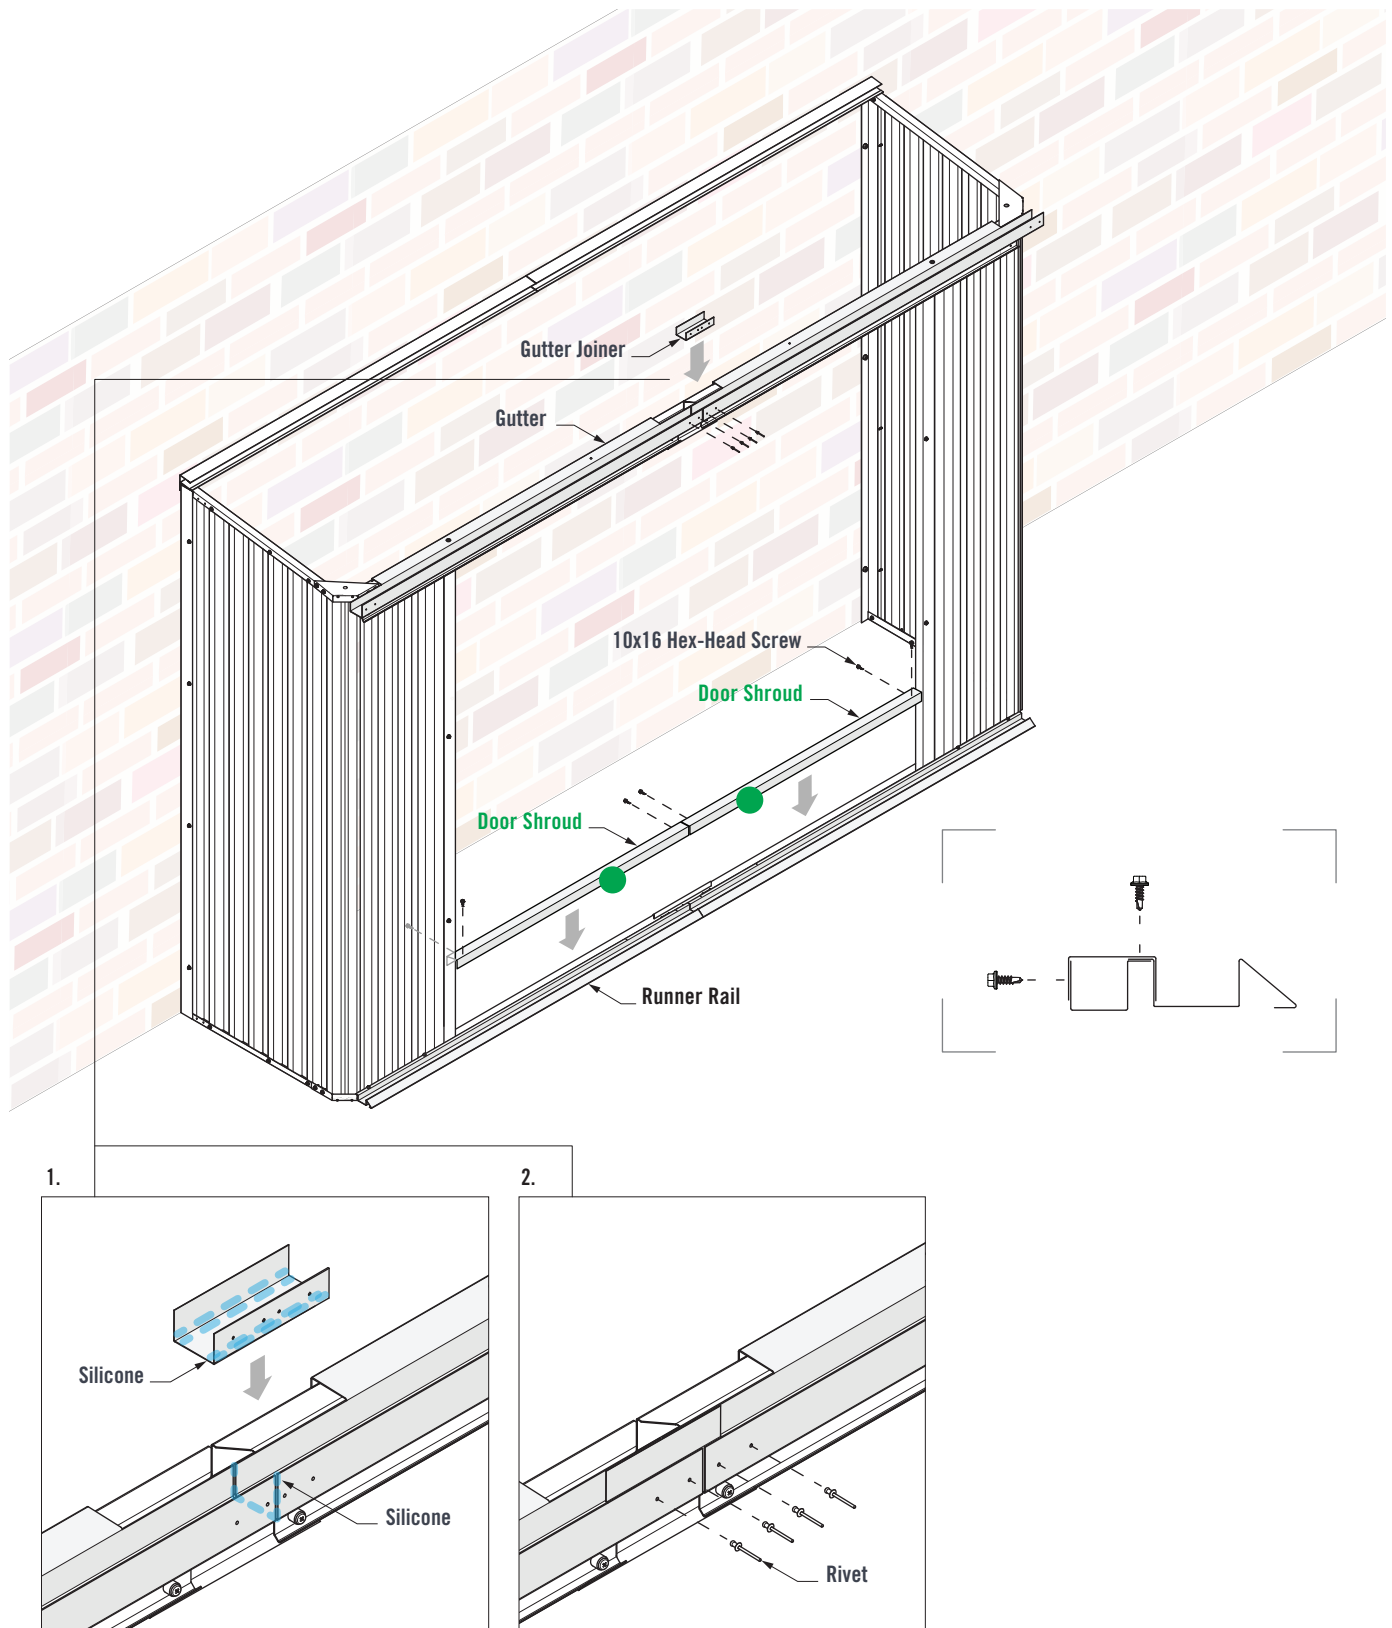

FIGURE 9.7
Fasten both **Door Shrouds** to the Runner Rail with six 10x16 Hex-Head Screws (Figure 9.7).
1. Apply silicone to the underside of the Gutter Joiner and centre of the Gutters. Fit the Gutter Joiner into the Gutters. Fasten four Rivets through the Gutters and into the Gutter Joiner (Figure 9.7).